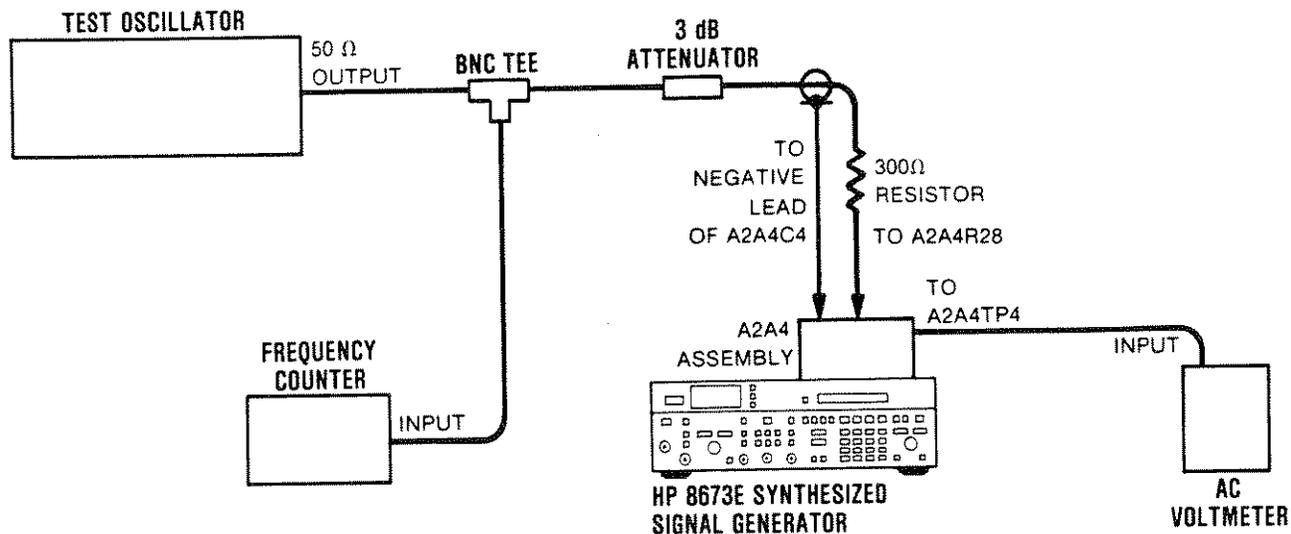

Figure 5-8. LFS Loop Notch Filter Adjustment Test Setup
5. Connect the equipment as shown in Figure 5-8. The leads from the 3 dB attenuator should be as short as possible. Connect the ground wire to the negative side of A2A4C4.